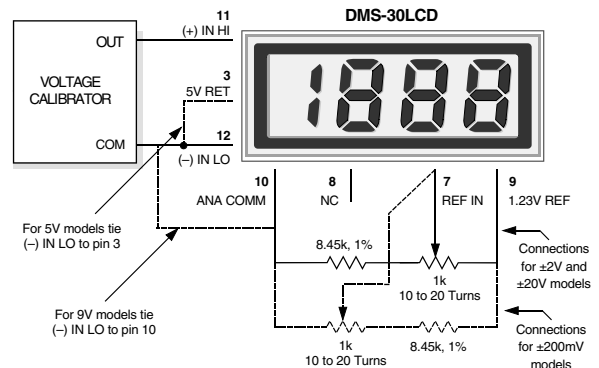

Figure 9. External Gain Adjustment
7. **Gain Adjust:** There is a gain-adjust potentiometer on the back of each meter. It has approximately ±50 counts (±2.5%) of adjustment range. Since these devices essentially have no zero/offset errors, a gain adjustment is effectively an overall accuracy adjustment. Though they may be performed at any point (except zero), accuracy adjustments are most effective when performed with higher level input signals. Refer to Figure 9 for applications requiring greater (±10%) gain adjustments.
7. **External Gain Adjustment:** Connect REFERENCE OUT (pin 8) to REFERENCE IN (pin 7) for normal, factory calibrated, operation. Use the +1.23V REFERENCE OUT (pin 9) for applications needing external gain adjustment. Figure 9 shows the wiring configuration for each model. Calibration is performed with a precise, near-full-scale, input voltage.